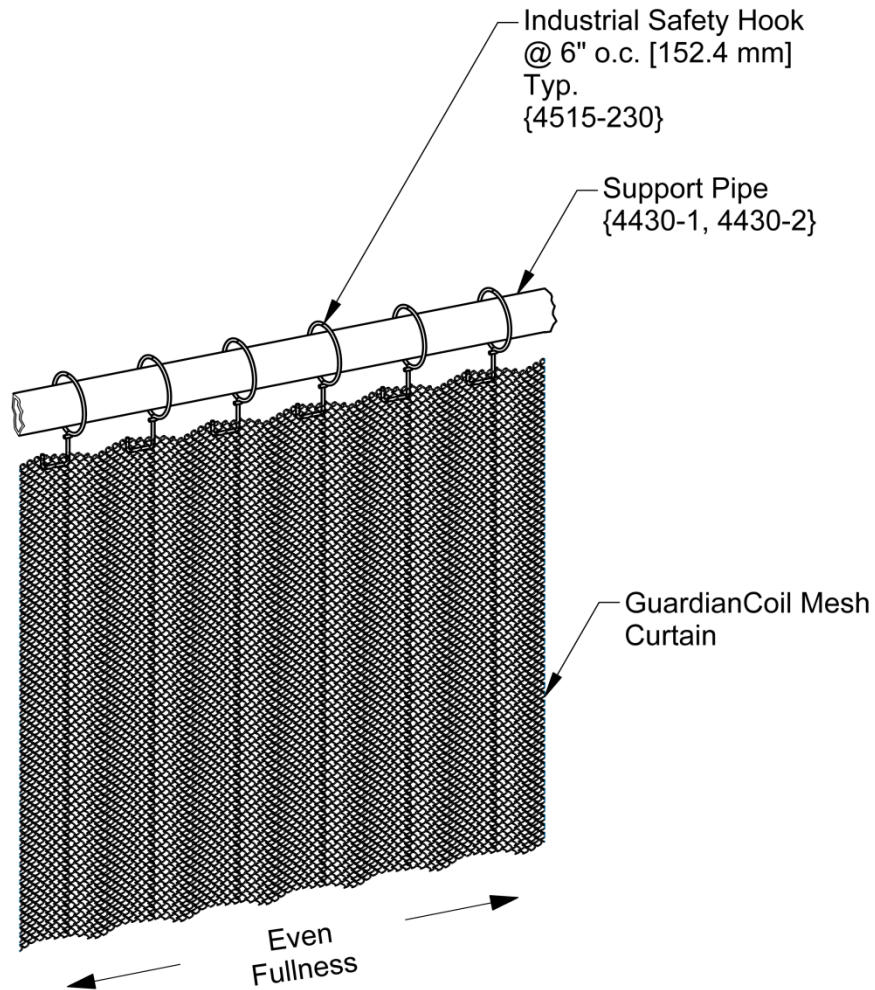

Figure 12
Step 4: Adjust the Mesh Curtain fullness evenly across the opening as shown in Figure 12 below.